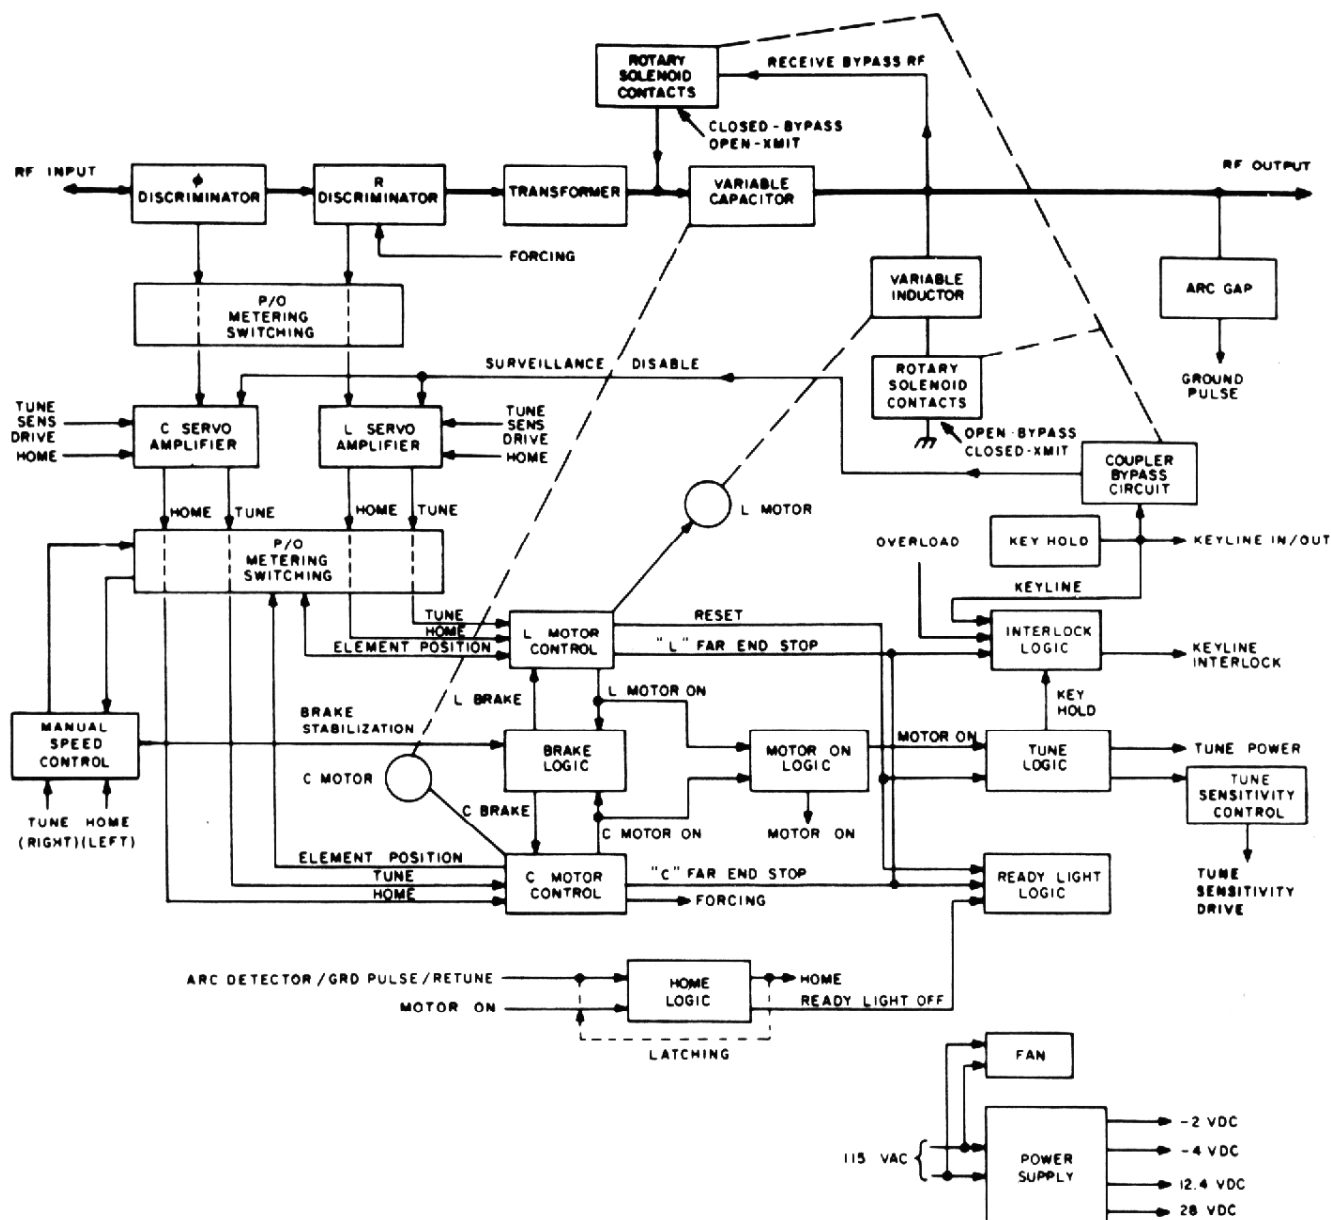

Figure 4-1. RF-601A Antenna Coupler Group Functional Block Diagram
The RF-601A is an automatic antenna coupler group consisting of two units: the RF-601A/CU and the RF-601A/C. These units are for general purpose surface ship and shore use with radio transmitting sets such as the RF-350 (when used with an RF-353), RF-270-05A, RF-130-01 Series, RF-1130-01 Series, and RF-155DR. However, the RF-601A may be manually tuned when operated with other transmitters. Additional provisions permit tuning without RF power. This is useful where radio silence must be maintained except during brief transmission periods. The RF-601A matches the impedance of a 15, 25, 28, or 35 foot whip antenna to a 50-ohm transmission line at any frequency in the 2.0 to 30.0 MHz range. The RF-601A will handle up to 1 kW of PEP or average power in an LSB, USB, LSB, CW, FSK, or compatible AM mode. Figure 4-1 illustrates the relationship of the functional sections of the RF-601A.
Refer to figure 4-1 during the following discussion. The RF input from the transmitter is applied through the phase ( $\phi$ ) and resistance (R) discriminators to the matching network. The matching network consists of a transformer, a variable capacitor, and a variable inductor. The two variable tuning elements are motor driven to a tuned position in an automatic, manual, or silent mode of operation (paragraphs 4.1.2 through 4.1.4). When tuned, the matching network transforms the antenna impedance at the selected operating frequency to 50 ohms resistive. The discriminators sample line voltage and current to measure deviations in the resistive and reactive components of the line impedance from the desired 50 ohms resistive impedance. If a deviation exists, the appropriate discriminator produces an error with a polarity that is indicative of the direction of the deviation. The error signals are applied through a switching and metering network to the servo amplifiers (automatic operation) or to the DISCRIMINATOR NULL meter (manual operation) so that the impedance of the variable tuning elements in the matching network can be adjusted. (The discriminators do not produce an output while manually pretuning the elements in silent operation.)